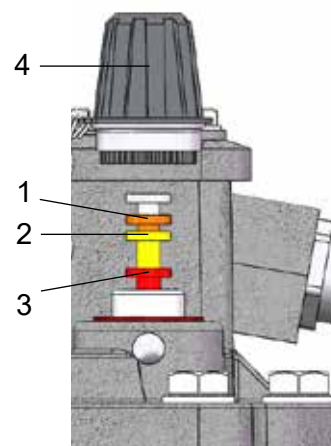

Fig. 7c - Test key
- Remove the large cap nut (Fig. 7c/ no. 4)
- Press the test key slowly down to position 1 (Fig. 7c/ no. 1) and keep it depressed
- Press the test key down halfway to position 2 (Fig.7c/ no. 2) and keep it depressed
- Press the test key down to stop position (Fig. 7c/ no. 3) and keep it depressed